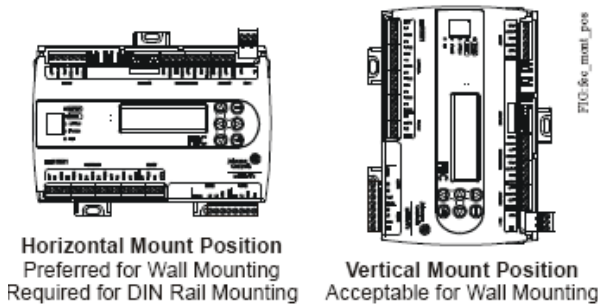
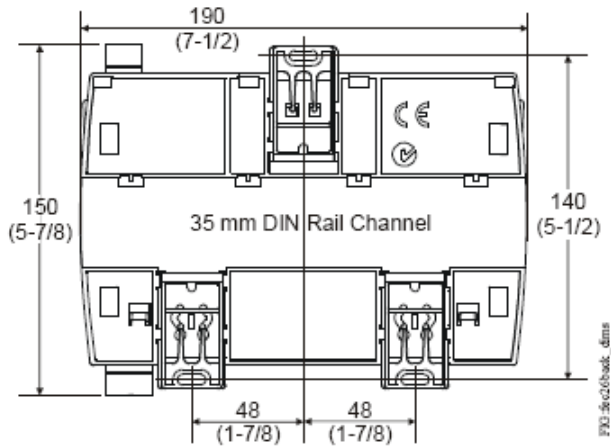

Figure 1: Controller Mounting Positions
Figure 2: Back of FEC26 Controller Showing Extended Mounting Clips, DIN Rail Channel, and
- Mount the FEC in the proper mounting position (Figure 1).
1. Securely mount a 20 cm (8 in.) or longer section of 35 mm DIN rail horizontal and centered in the desired space so that the controller mounts in the horizontal position shown in Figure 1.
2. Pull the two bottom mounting clips outward to the extended position (Figure 2).
3. Hang the controller on the DIN rail by the hooks at the top of the (DIN rail) channel on the back of the controller (Figure 2), and position the controller snugly against the DIN rail.
1. Pull the two bottom mounting clips outward and ensure they are locked in the extended positions as shown in Figure 2.
2. Mark the three mounting hole locations on the wall using the dimensions in Figure 2 and one of the mount positions shown in Figure 1 (or hold the controller up to the wall/surface in a proper mount position and mark the hole locations through the mounting clips.)